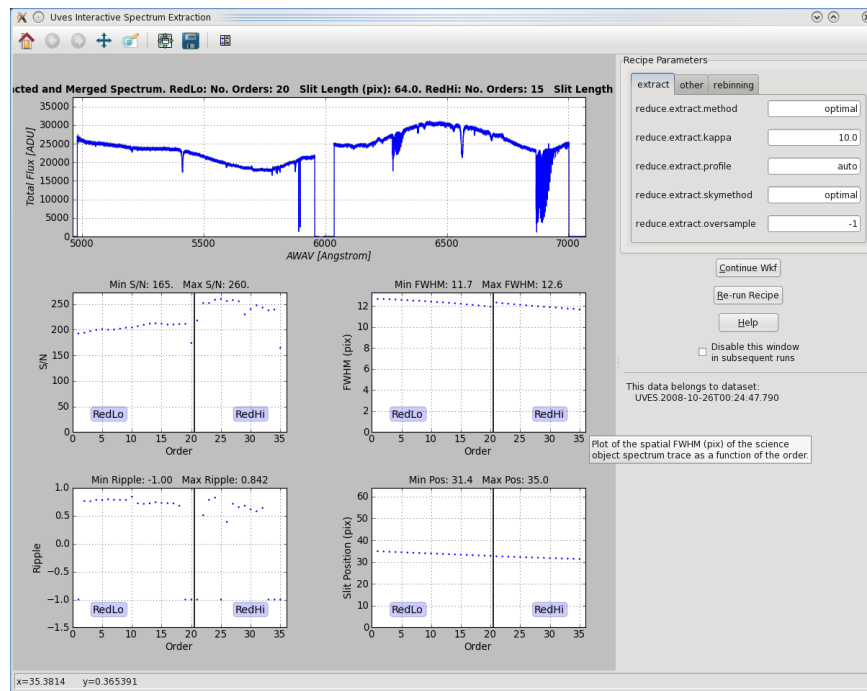

Figure 7.5: The interactive window for the Spectrum Extraction actor for the first DataSet in the data supplied with Reflex 2.8.
- Spectrum Extraction:** In Figure 7.5, we show the interactive window associated with the Spectrum Extraction actor, which executes the UVES pipeline recipe `uves_obs_scired`. This pipeline recipe performs the extraction of the science object spectrum using optimal extraction (Horne 1986), automatically selecting an analytical spatial profile (Gaussian or Moffat) in the case of low S/N spectra ($S/N < 10$) or an oversampled empirical spatial profile otherwise, and automatically determining the